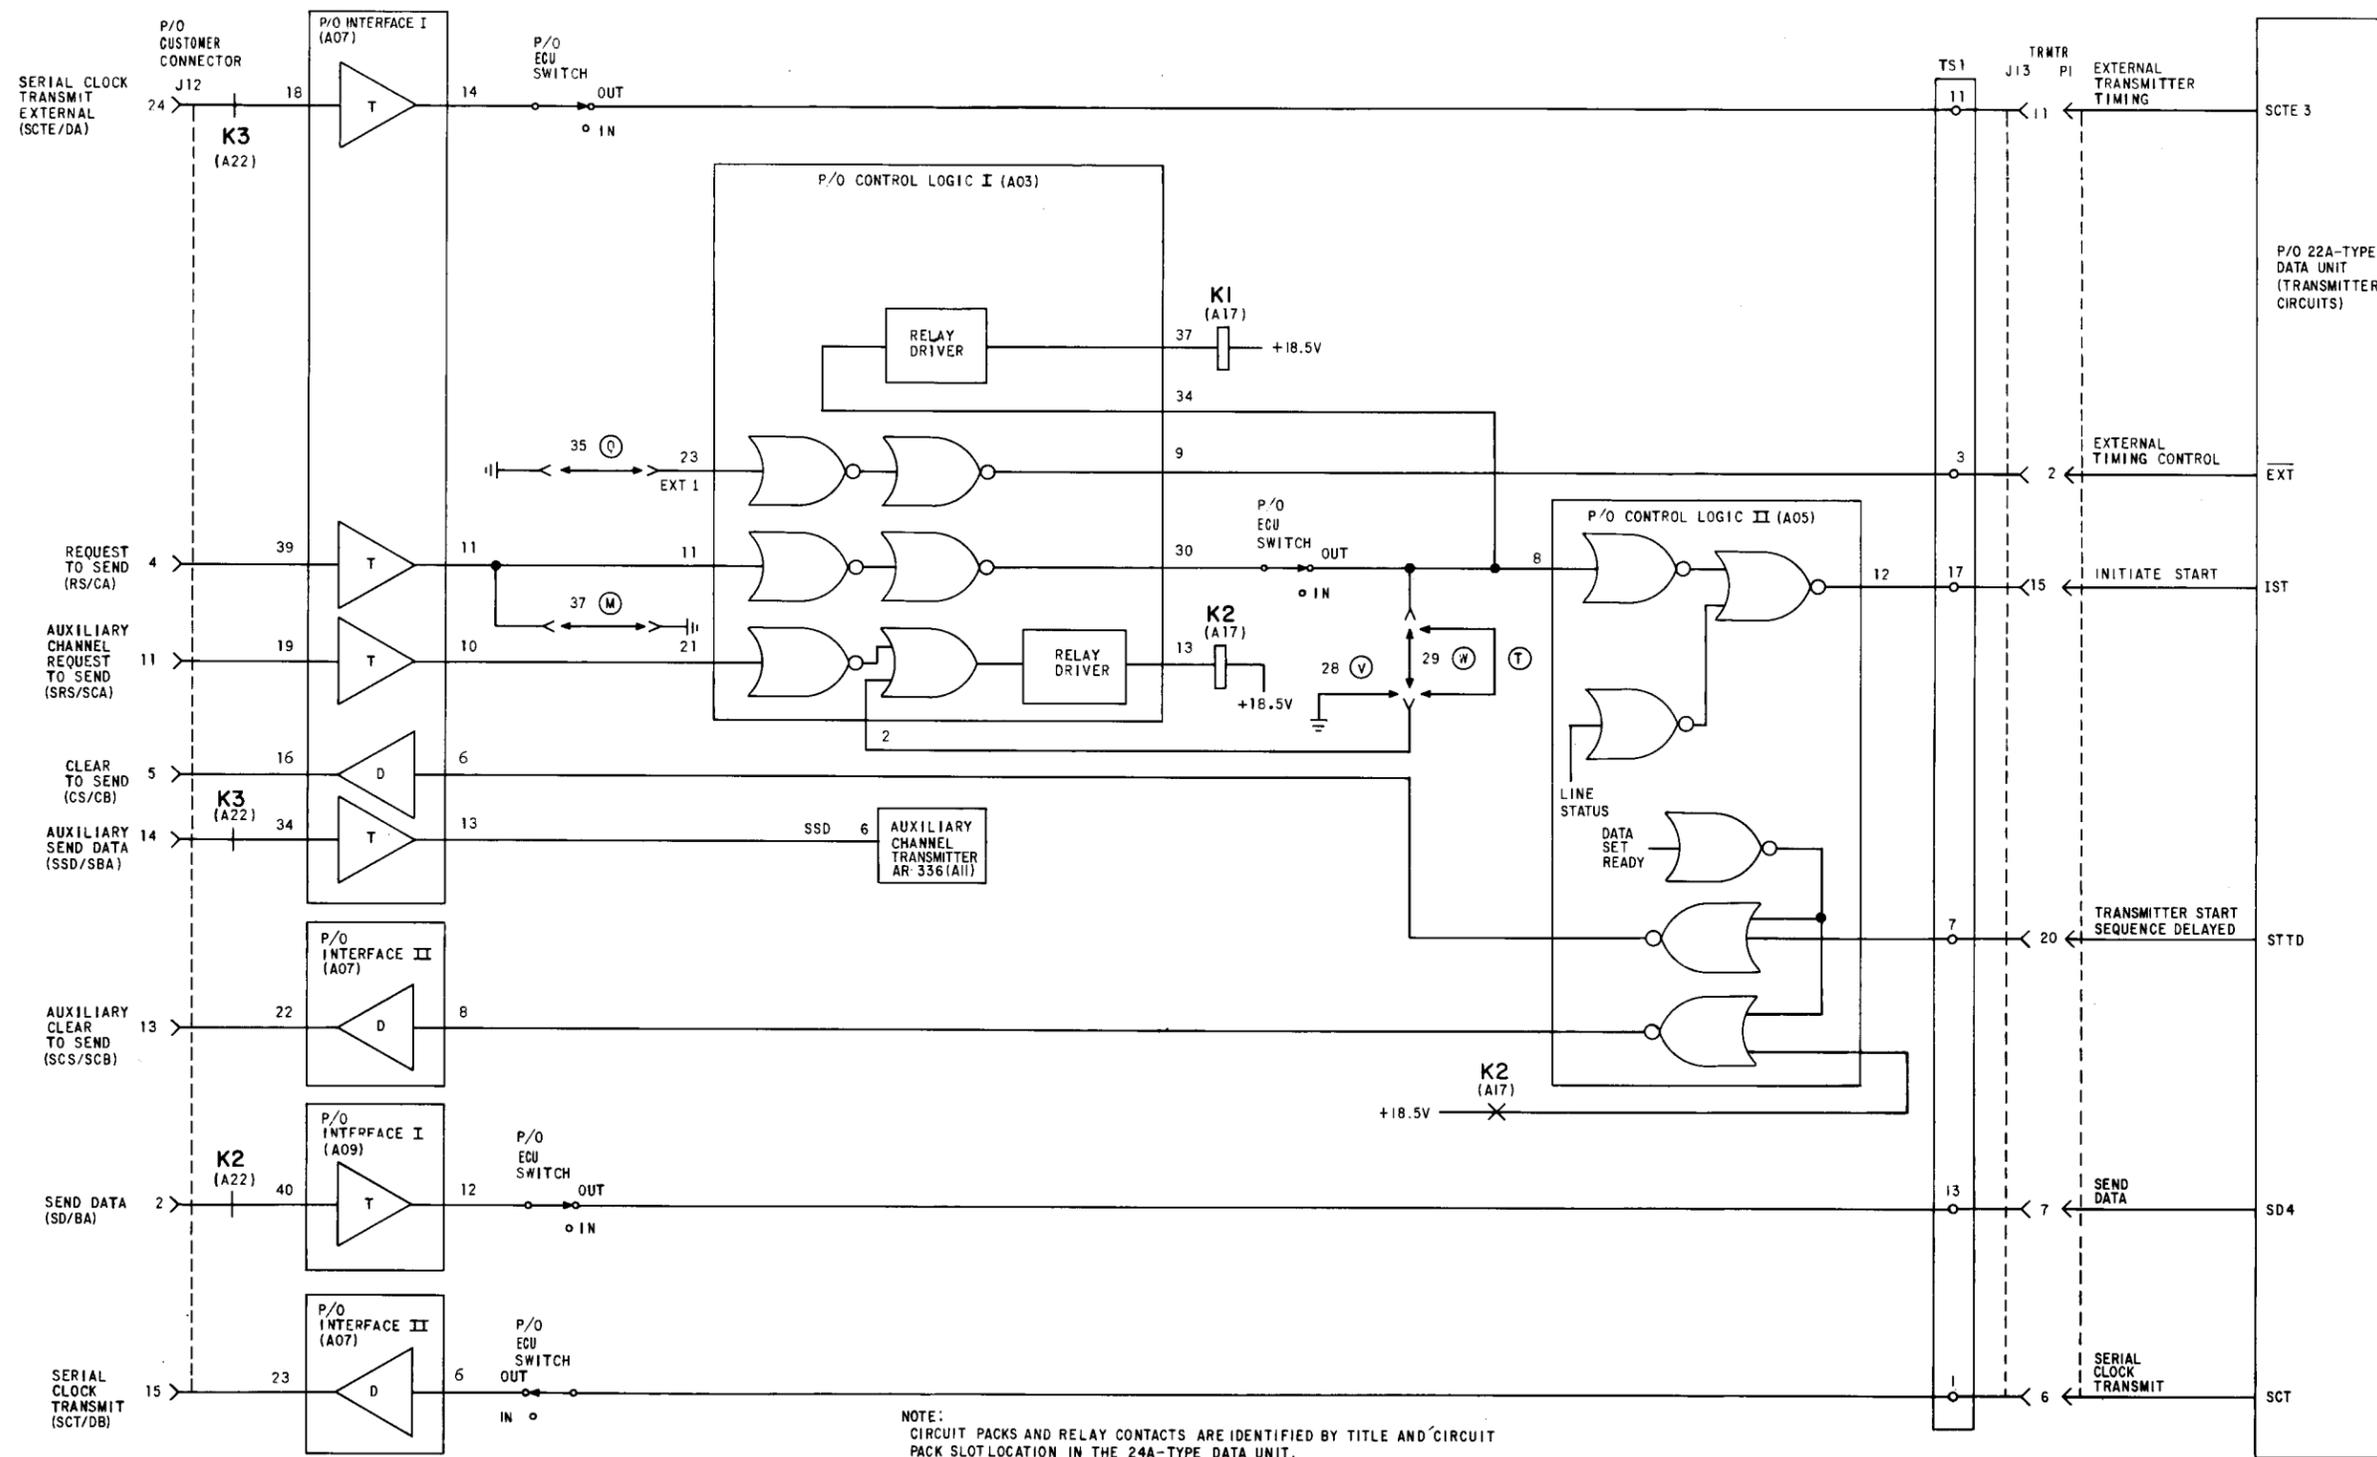

Fig. 13—Data Set 203-Type: 24A-Type Data Unit, Transmitting Circuits, Simplified Block Diagram
**2.52** A simplified block diagram of the transmitter circuits through the 24A-type Data Unit is shown in Fig. 13.
**2.54** During normal operation, when the line status (LS) signal is positive or installer option N (without DAS 804A- or M-type) is provided, IST will be controlled directly from the modified
RS/CA signal. If installer option J or ZR (initiate start automatic) (not shown in Fig. 13) is provided, IST will be pulsed OFF, then ON if either (1) the transmitter start sequence delayed (STTD) signal is at ground and the pilot detector slow (PDS) signal goes positive, or (2) the receiver signal quality (SQ) and receiver start sequence (STR) signals are both at ground. This option is used in a 4-wire full-duplex station and will initiate a new transmit start sequence if (1) the local data set is not in a start sequence and the associated receiver detects pilots, or (2) the receiver completes a start sequence and the signal quality is not acceptable.